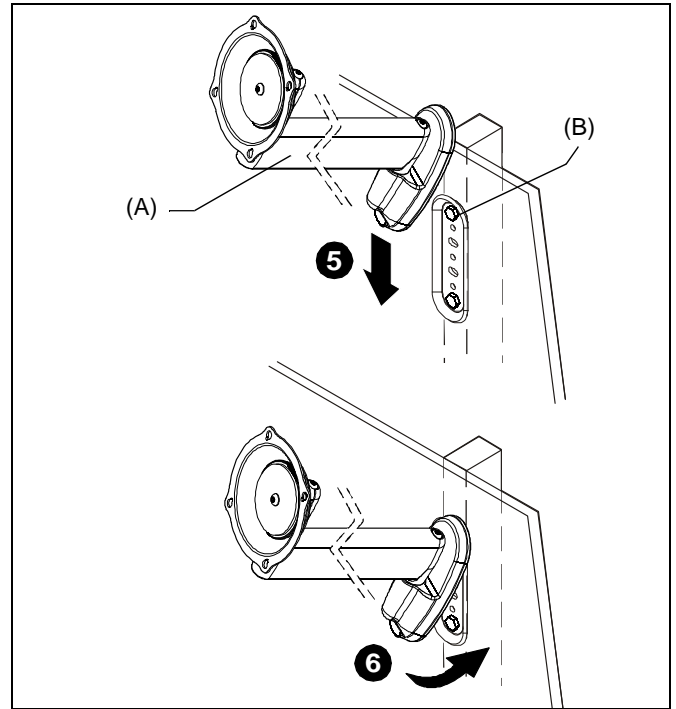

Figure 2
5. Insert top of wall mount (A) over lip on top of wall plate (B). (See Figure 2)